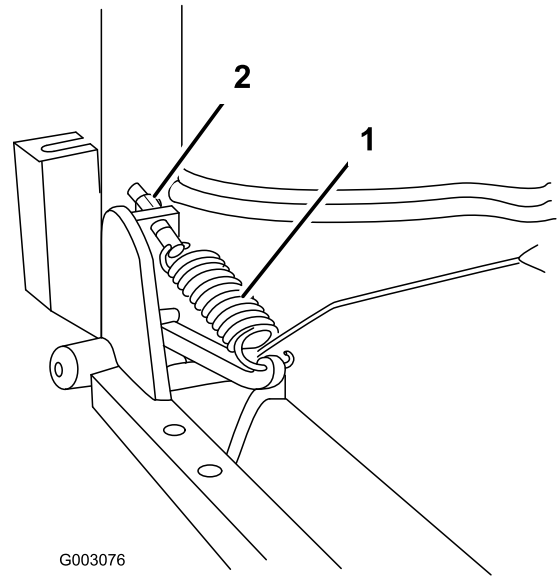

Figure 21
2. If the Extension Boom releases too easily the tension can be increased by tightening the nut (Figure 21).
4. Walk with the boom towards the sprayer. Insert the transport pin into the receiver. Be sure to secure the safety clip to the forward loop (Figure 21).